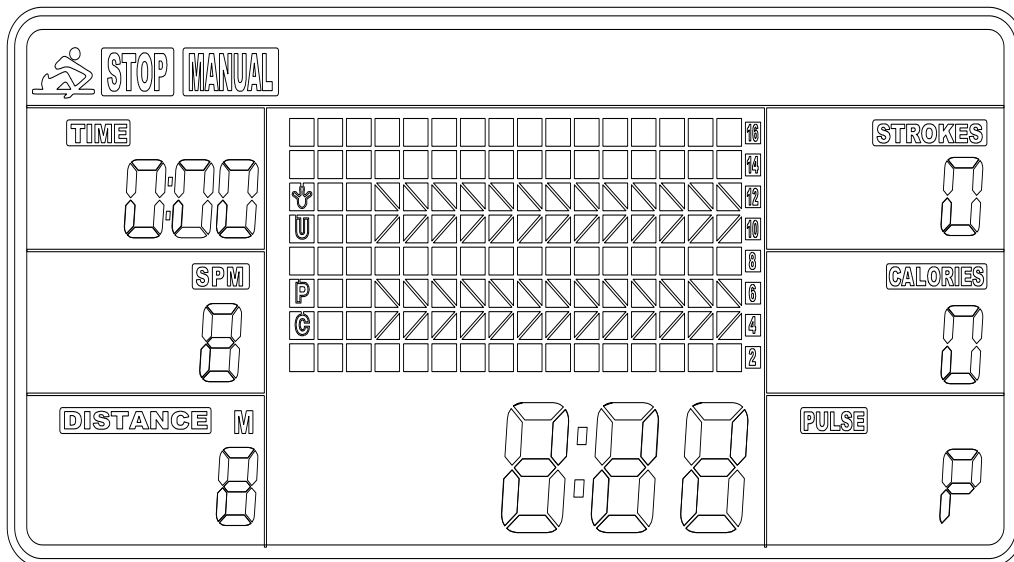

Fig.4
- (1) **MANUAL (Fig.4):** There are 2 options in MANUAL mode.